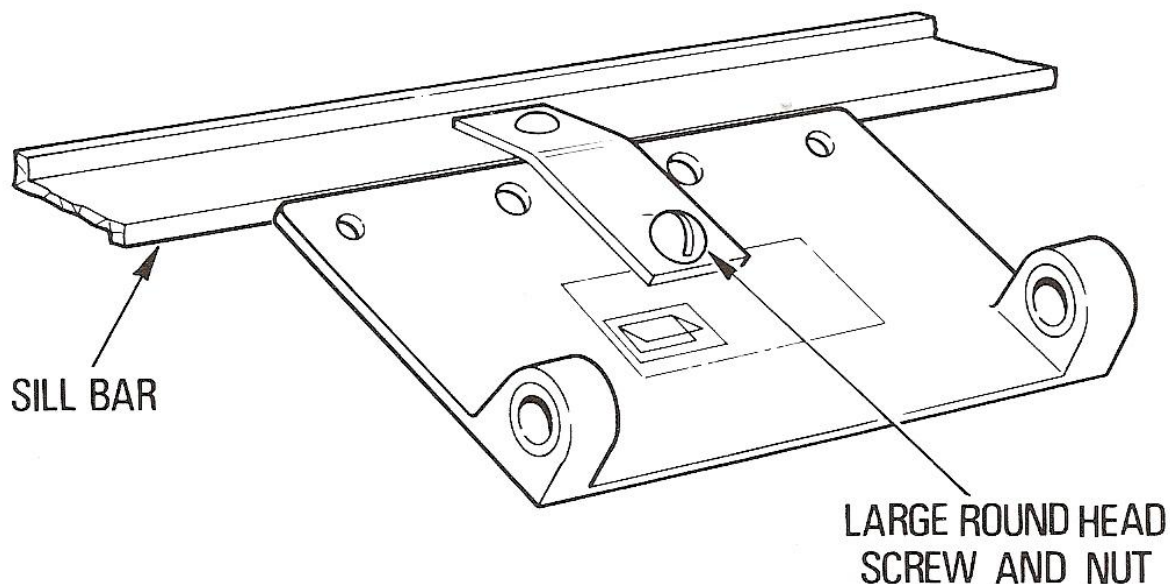

Fig. 5
2. Fasten the flat bracket to the bracket rivetted to the cill bar using the large round head screw and nut from the screw pack, through hole 'F' in the flat bracket. **See Fig 5.**